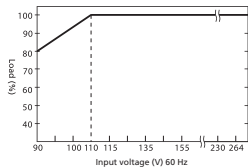

Figure 5: Relation between output power and input voltage
- b) Output power to input voltage: When the input voltage is low, S.P.S. will have higher power loss because of the PFC circuit, therefore we need to reduce the output power. Refer to figure 5, between 110 V and 264 V the S.P.S. can fully output, but between 90 V and 110 V we need to reduce the output power. At 90 V, the output power will be derating to 80 % of full load.